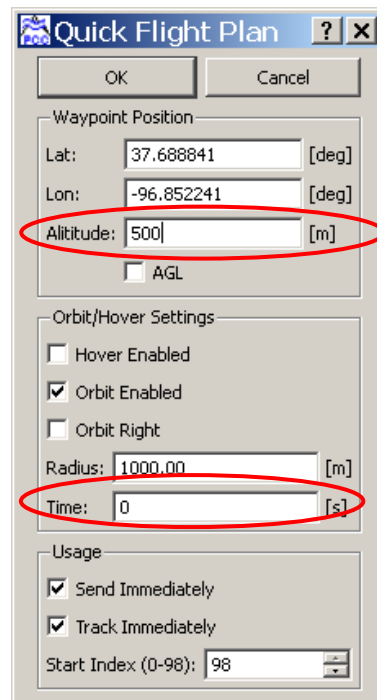

Figure 33 - Quick Flight Plan
- Move your mouse over to the map and click anywhere in the map area that you want to create a plan. The **Quick Plan** window opens (**Figure 33**) and displays the latitude and longitude of the position that was clicked in the map. In this window you can enable an orbit flight plan and select the altitude and radius for the aircraft to fly in.